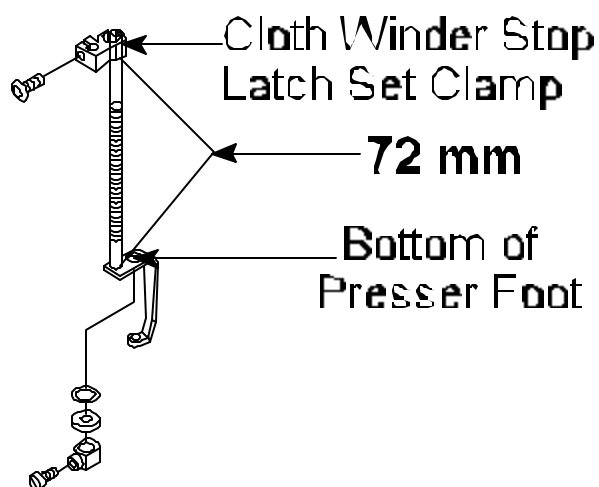

Figure 7
28. **Measure** from top of Presser Foot 72 mm and adjust bottom of Cloth Winder Stop latch Set Clamp to measurement. See *Figure 7*.
29. Using 2.5 mm Allen Wrench, **secure** Cloth Winder Stop Latch Set Clamp with hex socket bolt. See *Figure 7*.